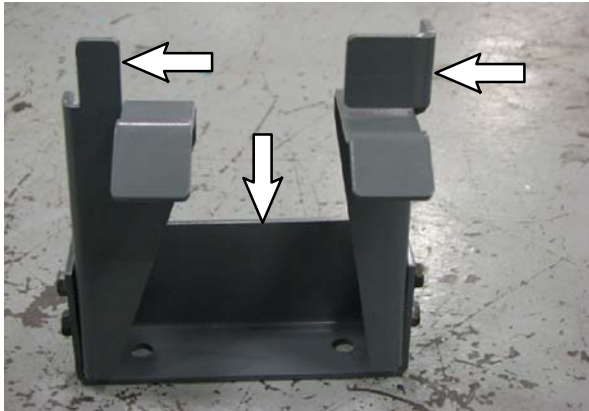

FIG. 80
101. Use two SEMS hex screws (11) and two flange hex nuts (13) to install the left lower support bracket (32) and the right lower support bracket (33) onto the bracket (107). (Fig. 80)